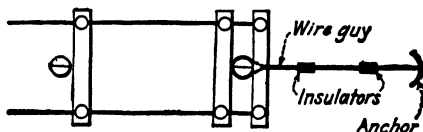
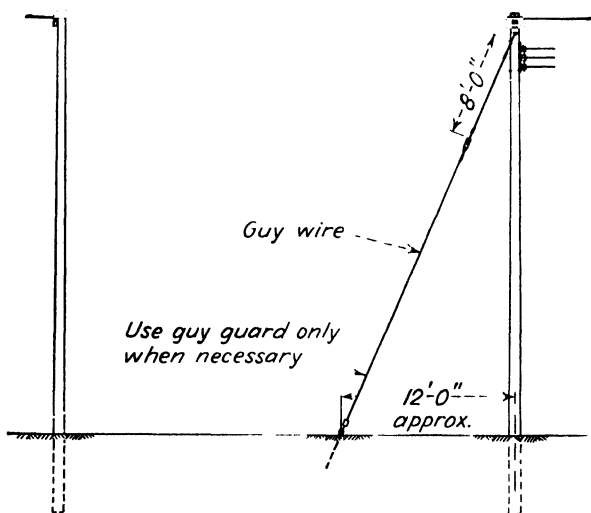

FIG. 12-2. Wire guy installed on terminal or end pole.
FIG. 12-3. Terminal down guy installed on a distribution line to counterbalance the pull of the dead-ended secondary mains.
**Terminals.** Line terminal poles should be guyed against the strain of the line conductors (Fig. 12-2). Figure 12-3 shows a terminal guy installed to balance the pull of the dead-ended secondary mains. In case of heavy line conductors, the pole next to the terminal pole is often also head guyed in the same direction. Where the guy would interfere with traffic, etc., a stub guy should be employed.